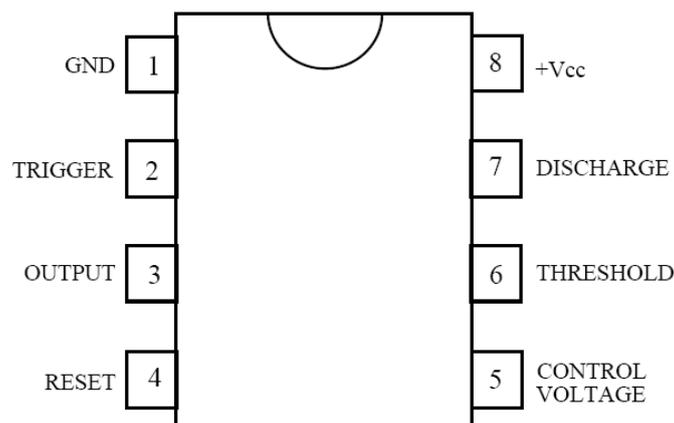

Fig. 8-3 LM555 pin configuration
The connection diagram and equivalent circuit of LM555 timer are illustrated in Figs 8.3 and 8.4 respectively. It comprises five major sections: (1) the lower comparator or trigger comparator; (2) the upper comparator or critical comparator; (3) flip-flop (FF); (4) discharge transistor; and (5) output driver.